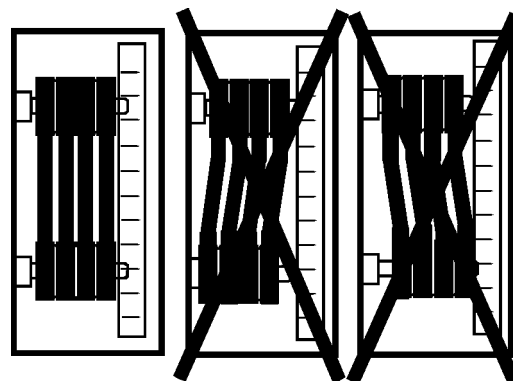

Figure 13. V-Belt Parallelism
2. Check uniform parallelism (Figure 13) of V-belts and pulley (sheaves). Use a straight edge or machinist's square against both pulleys and adjust both pulleys until equally aligned.